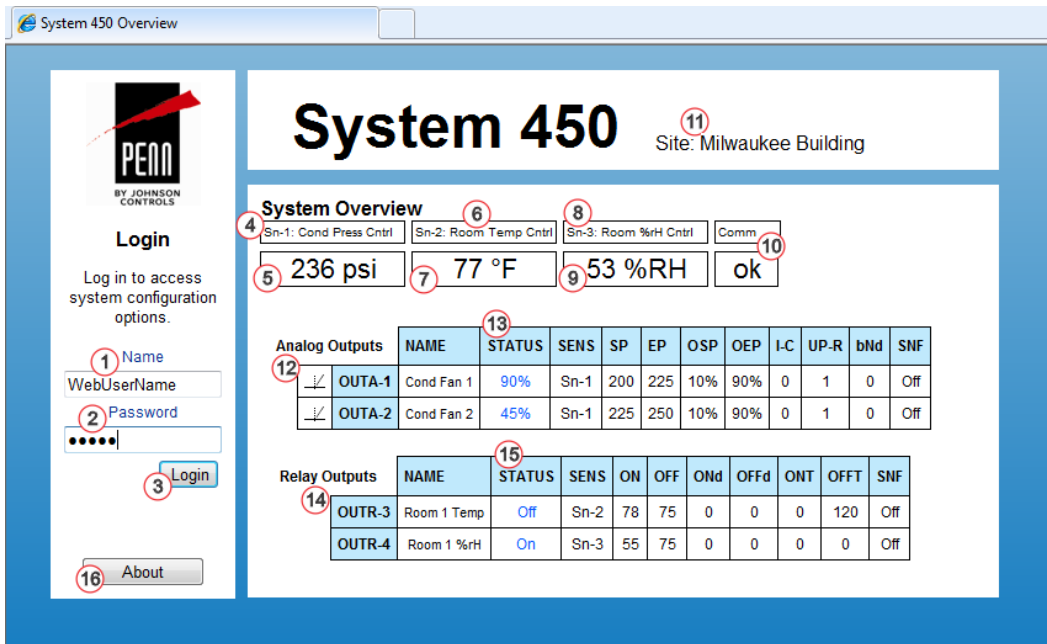

Figure 8: System 450 System Overview Page Example
5. Type the IP address 169.254.1.1 into the browser's address bar and press Enter. The System 450 Overview and Login page should appear (Figure 8).
Figure 8 shows an example System Overview page for a System 450 control system that is set up and operating. In the System Overview, you can view the system status, system setup parameters, and values, and you can log in to the control system’s web UI.
Table 13 provides descriptions, user actions, and references for the items called out in Figure 8.